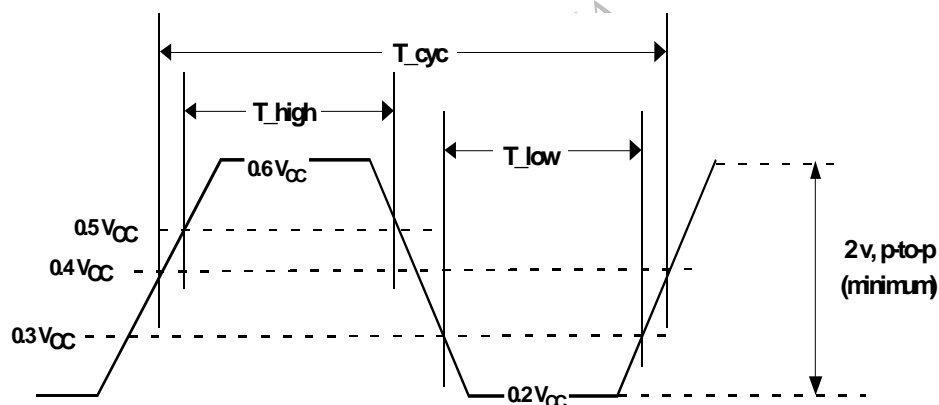

Figure 9 Clock Waveform
1. Rise and fall times are specified in terms of the edge rate measured in V/ns. This slew rate must be met across the minimum peak-to-peak portion of the waveform as shown in Figure 9